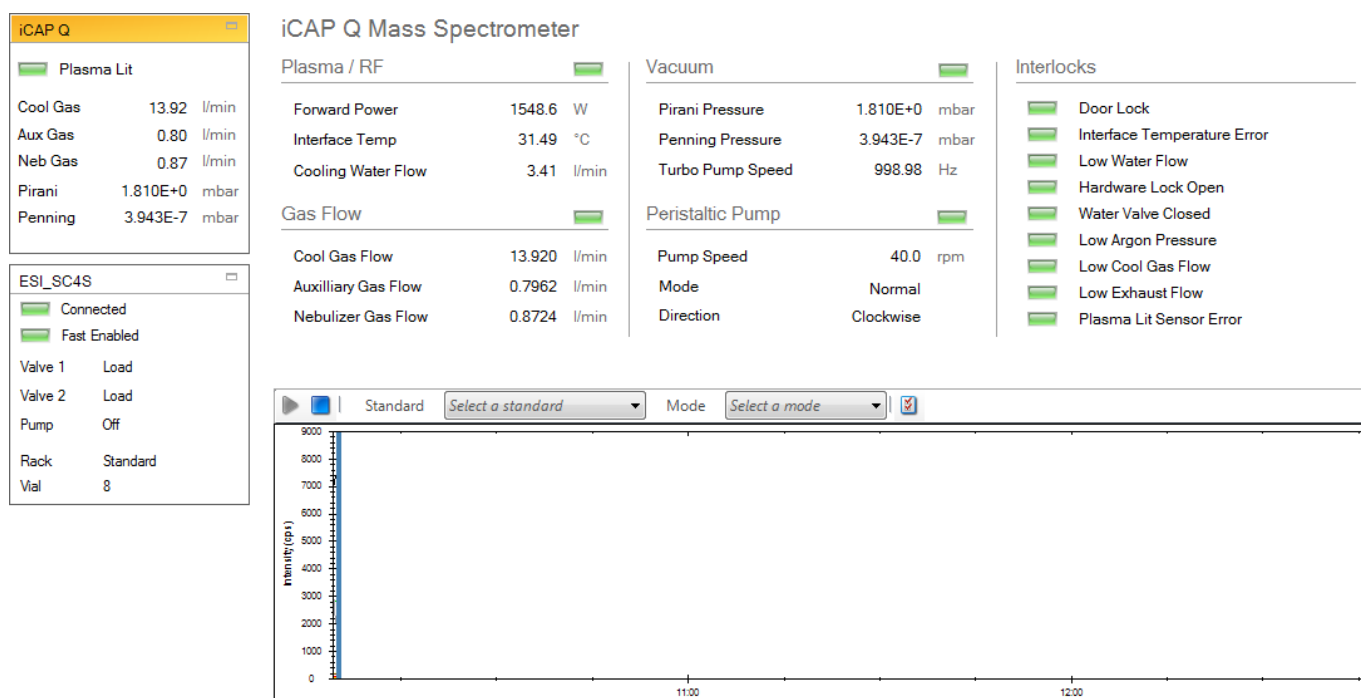

Figure 5-9. System Statuses on Dashboard
3. Check the values and indicators of each subsystem, see Figure 5-9.